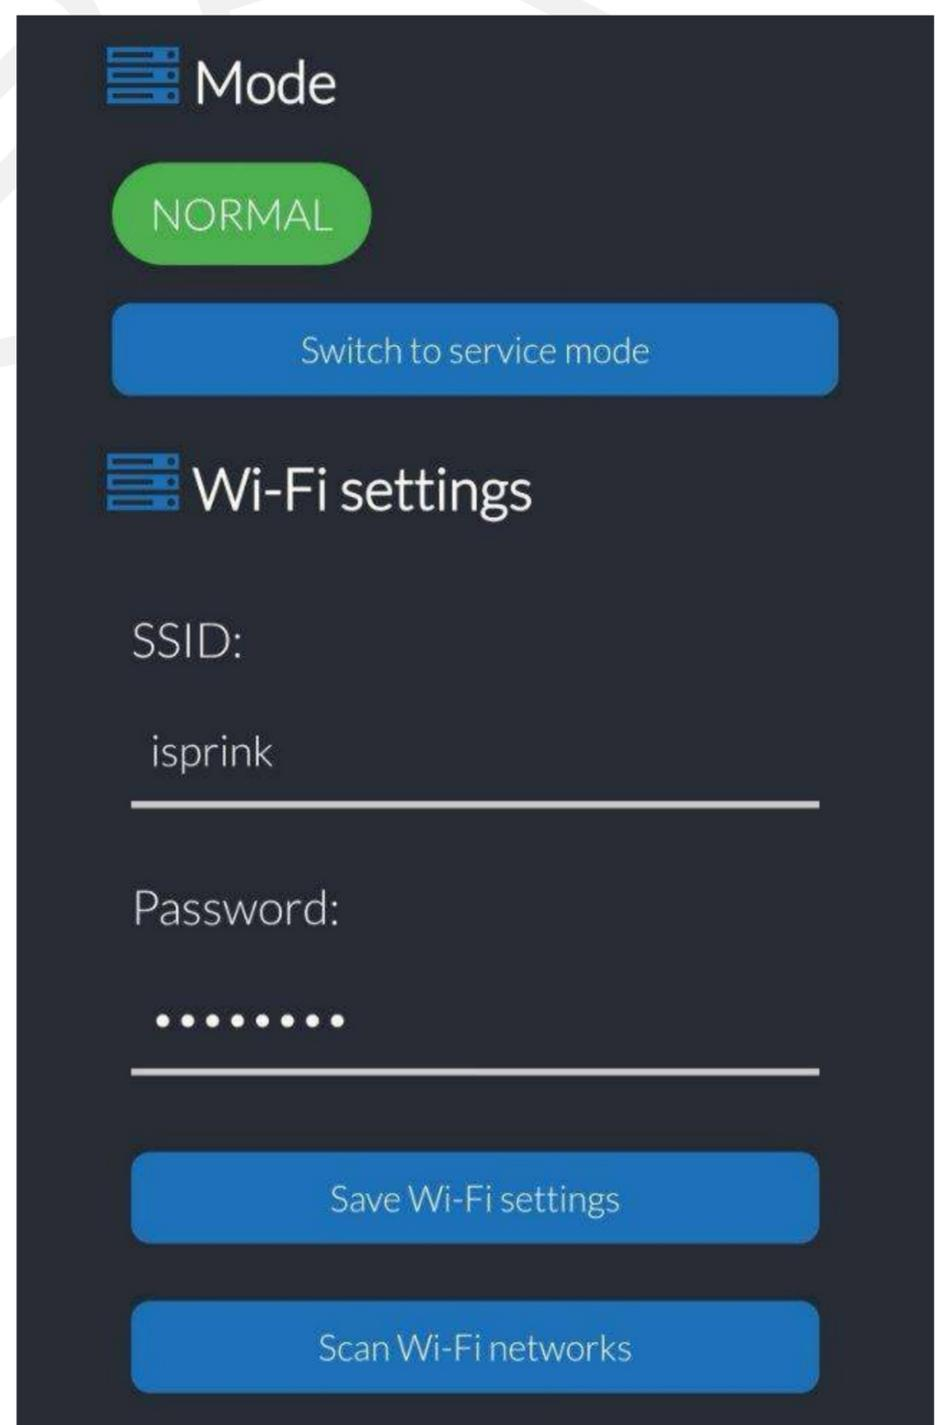

Fig. 6
g) Wi-Fi Modem Settings (see Figure 6)